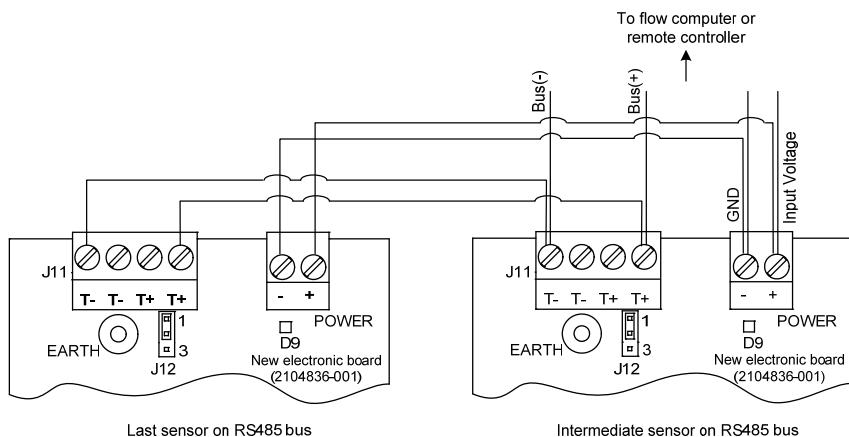
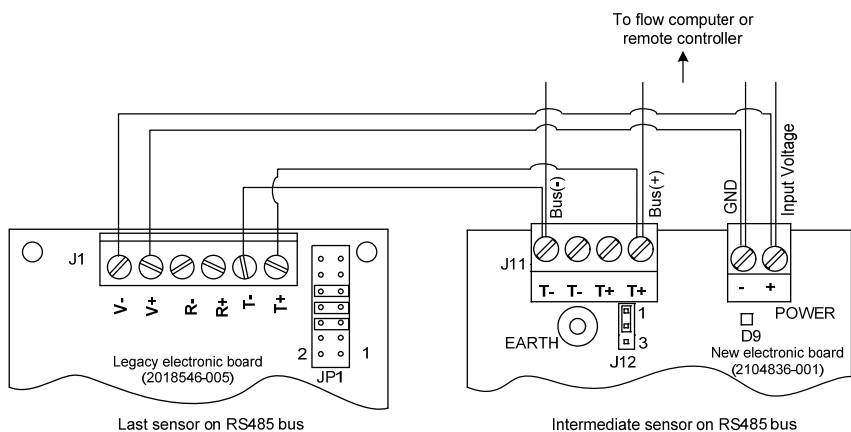
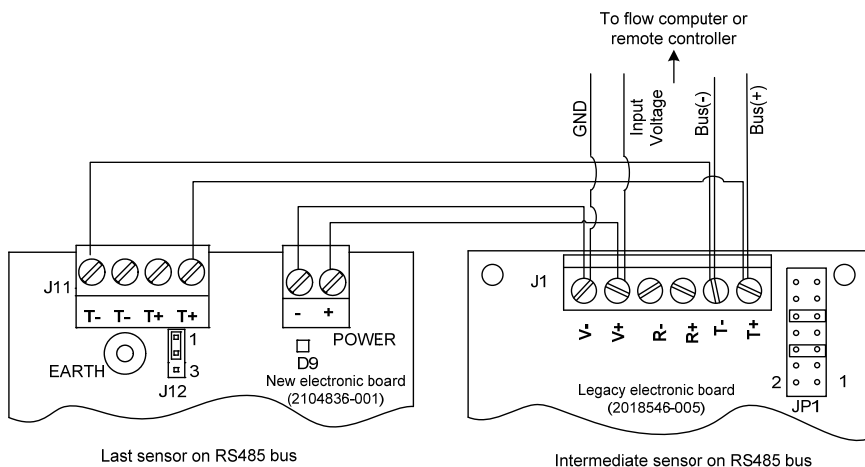

Figure 16: RS485 bus connections for same board types
Figure 17: Connections of mixed board types: new board as intermediate sensor
Figure 18: Connection of mixed board types: new board as last sensor
- b. If the unit is connected to a multiple-unit RS485 bus, wire as shown in Figure 16, Figure 17 (page 22) or Figure 18 (page 22).